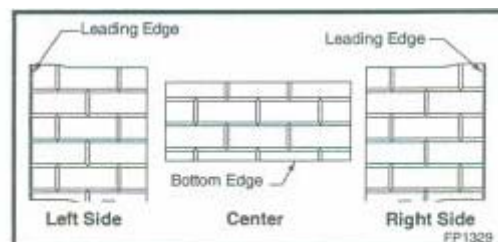

Fig. 15 Ceramic refractory. 10005360
4. Take centre refractory and tilt so that bottom edge seats onto the rear log bracket at the back wall of the fireplace. (Ref Fig. 15)